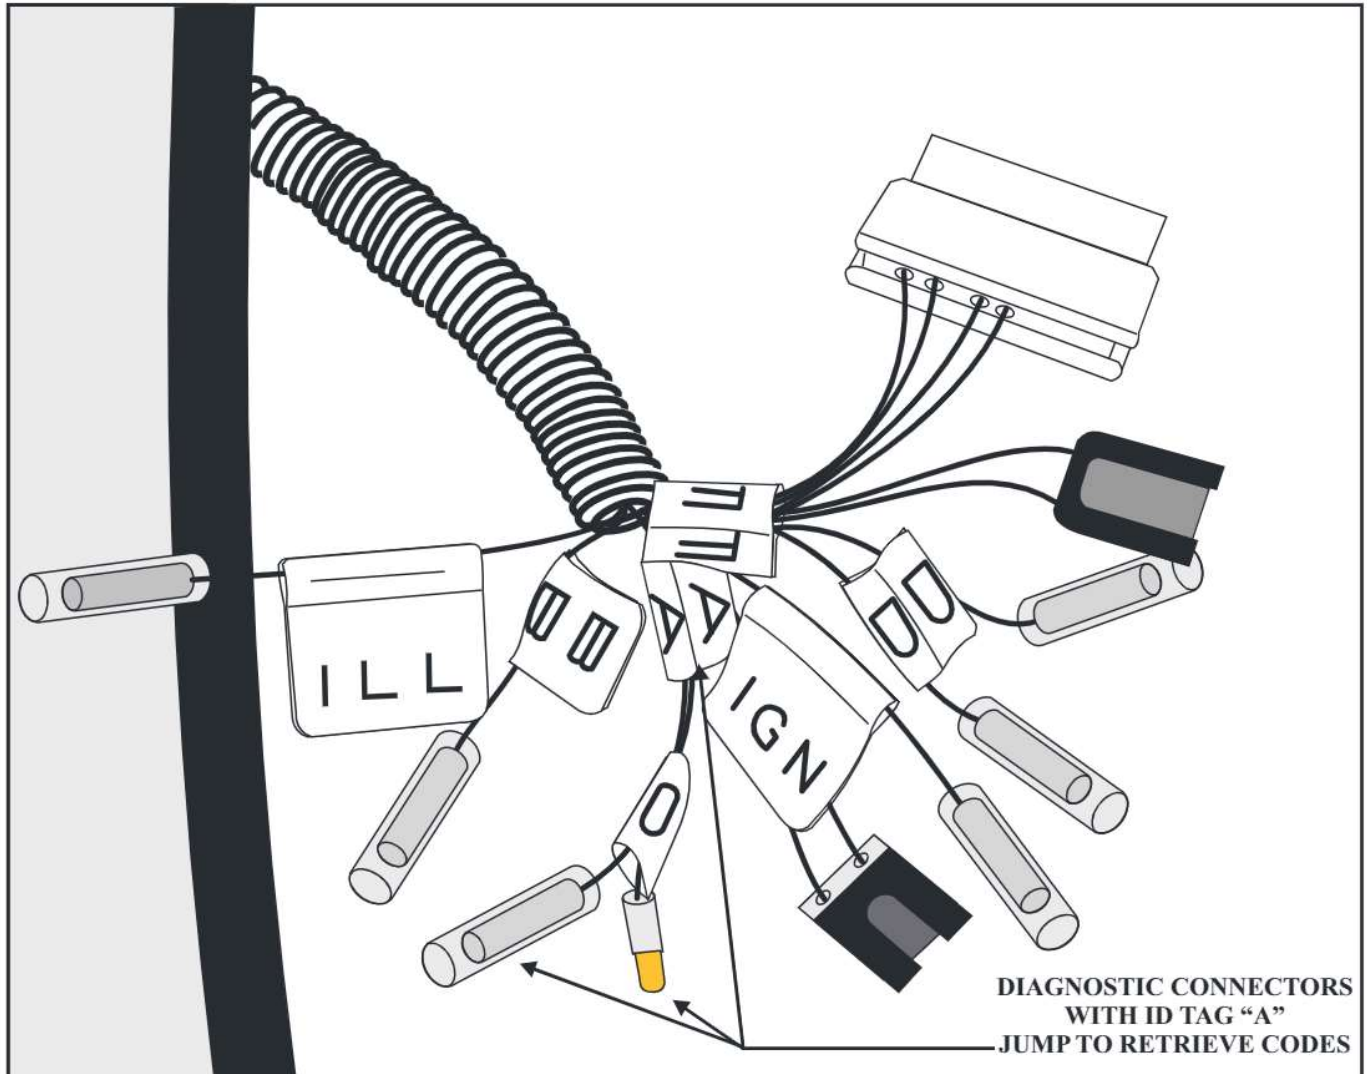

Figure 69
1. Using a suitable jumper wire, jump diagnostic connectors **1-14** which is a **BLUE/YELLOW** wire and **1-15** which is **BLACK** which are located in the driver side kick panel area. This pair of diagnostic connectors has an “**A**” on the connector identification tag as shown in figure 69.